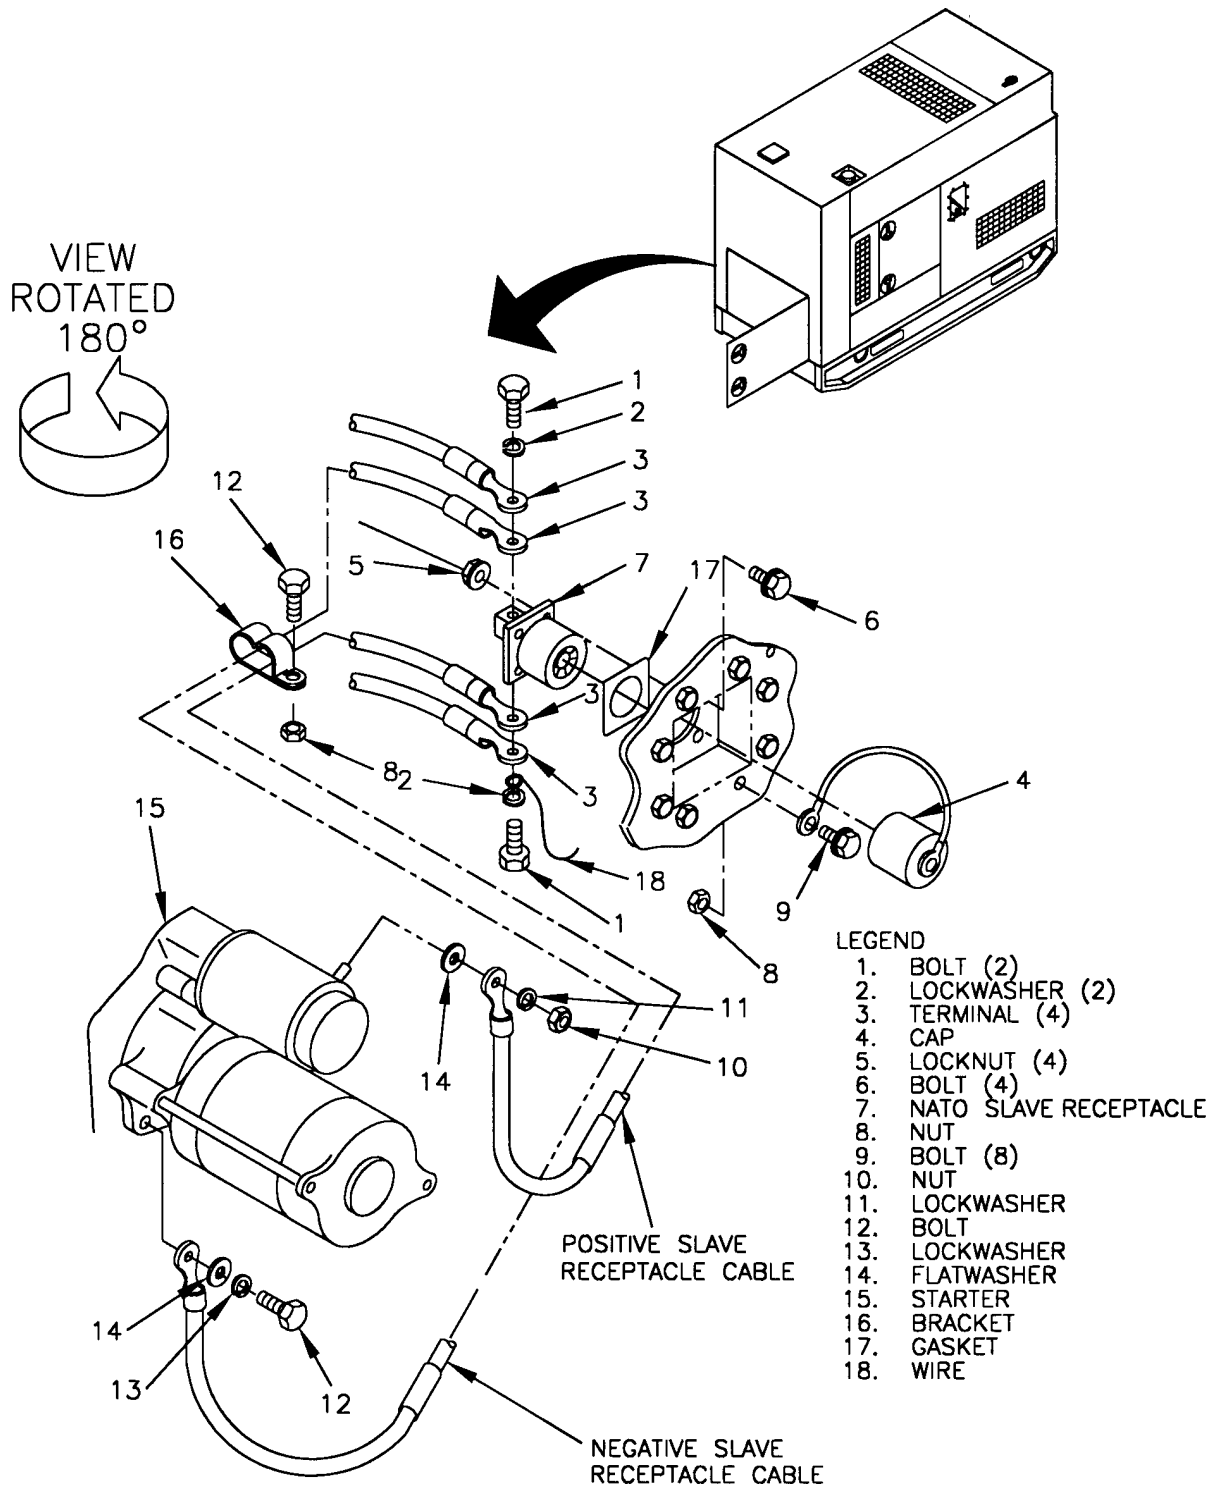

FIGURE 4-4. NATO SLAVE RECEPTACLE AND CABLES
- (3) Inspect NATO SLAVE RECEPTACLE (7, Figure 4-4) for loose connections, corrosion, missing hardware, and other damage.
- (4) Close BATTERY ACCESS door.
- (3) Tag battery and NATO SLAVE RECEPTACLE cables. Remove bolts (1, Figure 4-4), lockwashers (2), wire (18) and terminals (3) from NATO SLAVE RECEPTACLE (7).
- (4) Remove cover (4) from NATO SLAVE RECEPTACLE (7).
- (5) Remove nuts (5), bolts (6), NATO SLAVE RECEPTACLE (7) and gasket (17) from generator set.
- (6) Remove nut (8), bolt (9), and cover (4) from generator set.
- (1) Install cap (4, Figure 4-4), with bolt (9), and nut (8) on NATO SLAVE RECEPTACLE (7).
- (2) Position NATO SLAVE RECEPTACLE (7) and gasket (17) in generator set with negative terminal up.
- (3) Install NATO SLAVE RECEPTACLE (7) and gasket (17), with bolts (6), and nuts (5) on generator set.
- (4) Install cap (4) on NATO SLAVE RECEPTACLE (7).
- (5) Install terminals (3), wire (18), lockwashers (2), and bolts (1) on NATO SLAVE RECEPTACLE (7).
- (6) Connect negative battery cable to battery, and close BATTERY ACCESS door.